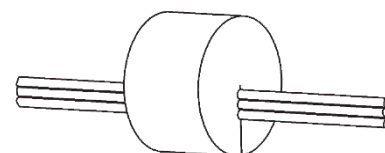

Figure 10: Wires through foam plug
- **Conduit** – Included with the CO2 transmitter is a foam plug to seal the ½ inch EMT. Place the wires into the plug as shown in Fig. 10 and then insert the plug into the conduit sealing the conduit.